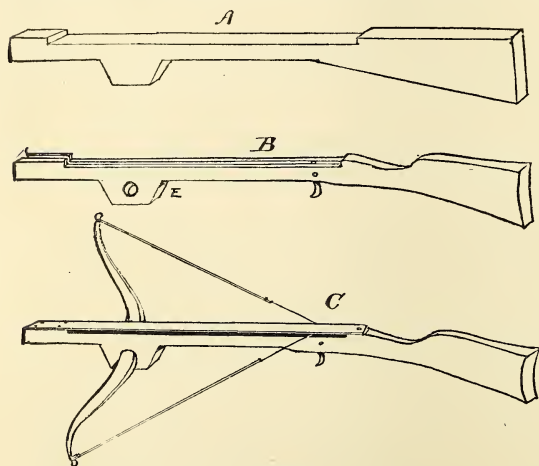
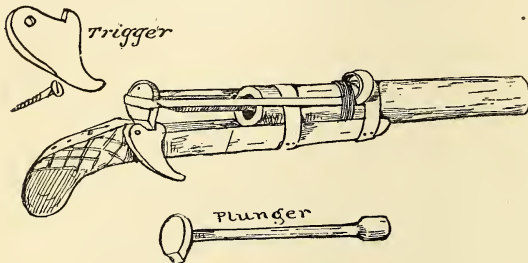

FIG. 129.—The Elastic Cross-Bow.
FIG. 134.—Plunger Pistol.
Select a piece of thick pine or cedar plank and saw out a piece of the form shown by A, Fig. 129. Trim it down with a jack-knife until it becomes more finished and gun-like in appearance. With a gouge, such as may be borrowed at any carpenter or cabinet-maker's shop, cut a half round groove from
the butt to the muzzle of the barrel. The groove must be perfectly straight and true (B, Fig. 129). Bore a hole in the piece (E), for the bow to fit in. The bow in this case should be made perfectly stiff, so as not to bend in the least when the line is drawn and the gun set. The bow may be bent into the proper form by steeping it in boiling water until the wood becomes pliable, and binding it firmly into the required position. After it
has become perfectly dry the wood will retain the form and the bindings may be cut off. Trim the bow nicely into shape, and make it of such size that it will *not bend* when the string is drawn. Fit the bow into place, not like an ordinary cross-bow but in a reversed position, as shown by the diagram C, Fig. 129. It might be an improvement to set the bow back toward the stock an inch or two further than the one in the illustration. For a bow-line use two pieces of strong elastic, with a string for a centre piece. The centre cord prevents the bow-line from wearing out as soon as it would if it were all elastic (Fig. 129, C). Make the trigger in the manner described for the plunger pistol (Fig. 134, page 204), but instead of fastening it upon one side with a screw, set it in a slot cut for the purpose in the middle of the barrel near the stock, and let it move freely upon a pivot.
Cut a thin, smooth piece of pine just long and wide enough to cover the gun-barrel from stock to muzzle, and fasten it on with a couple of small brads at the muzzle and a screw at the stock (Fig. 129, C).
much neater gun can be made. Fig. 134 shows a pistol made with an elder barrel and a stock of pine. A plunger, similar in many respects to the one used in the squirt-gun, is made with an edge to catch in the trigger. An elastic band is bound to the barrel with string, and the loop fastened to the butt end of the plunger. When the latter is drawn back to the trigger it stretches the elastic. By pulling the trigger toward you it loosens the plunger, which flies back with a snap, sending the arrow out with considerable force. The barrel of the pistol may be fastened to the stock by two strips of tin or leather. The diagram shows the form of the trigger, which should be made so as to move readily backward or forward upon the screw that fastens it to the stock.